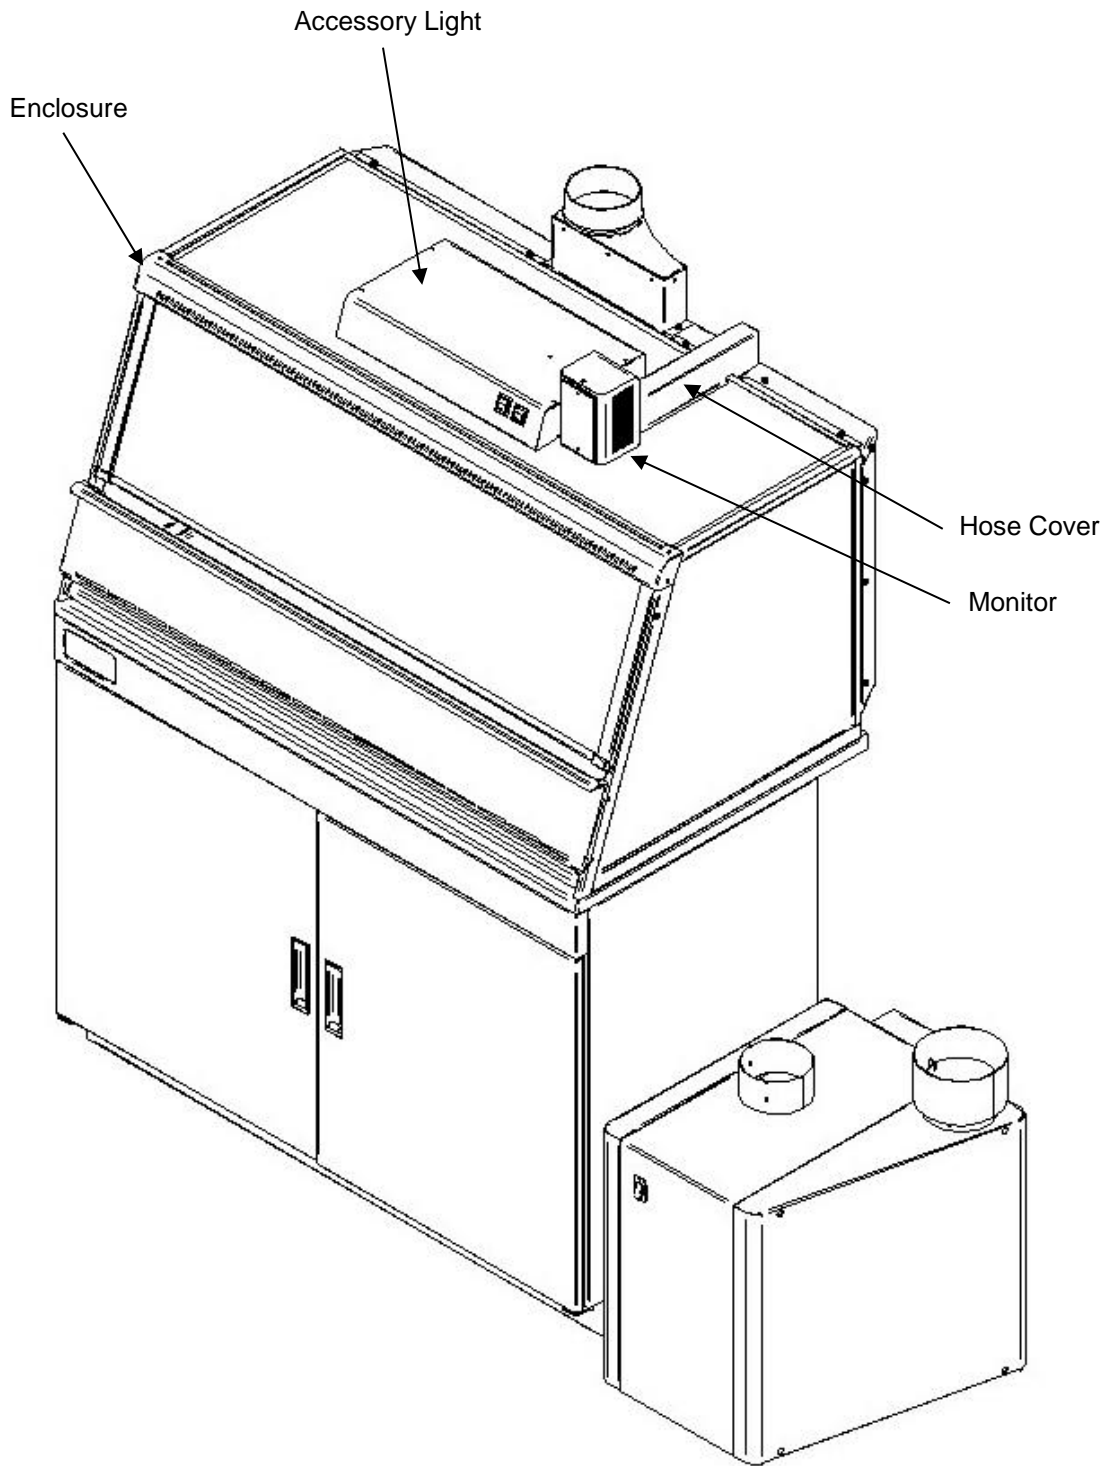

Figure 6-8
5. Locate the metal hose cover and install with double stick tape per Figure 6-8.